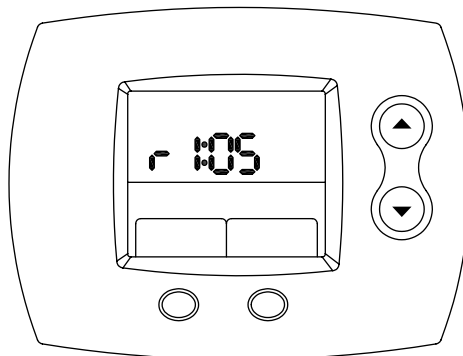

Figure 39
Step 2: After a few seconds, the software revision level of the Setback Control is shown. An example is shown in Figure 39.